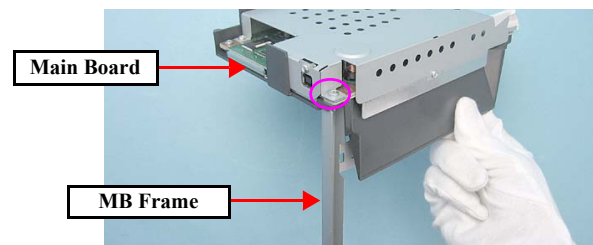

Figure 4-59. Removing the MB Frame
- 3. Install the Main Board Unit to the MB Frame. (Fig.4-59)